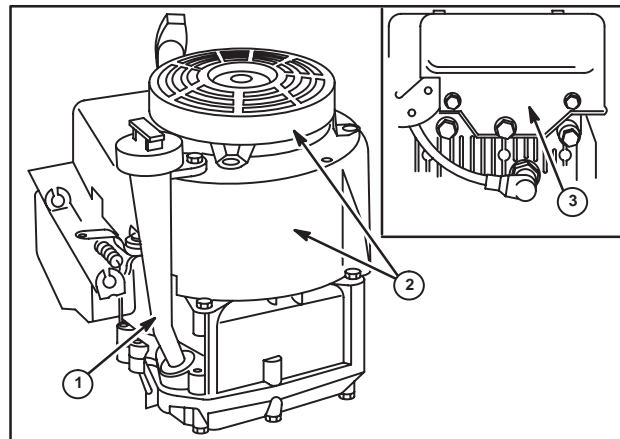

Fig. 127
2. Remove dipstick and oil fill tube (1), Fig. 127.
- Remove blower housing and rewind starter (3, 2), Fig. 127.